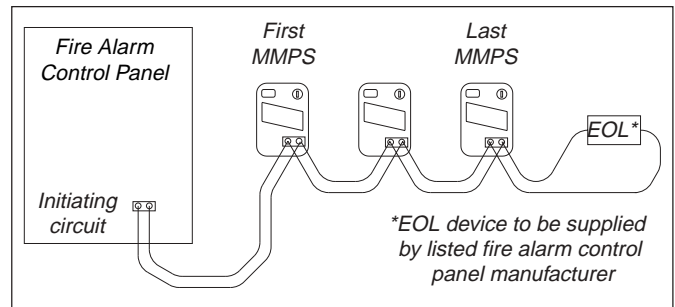

Figure 3: Basic MMPS Alarm Circuit
3. Electrical Connections (ref. figure 3).